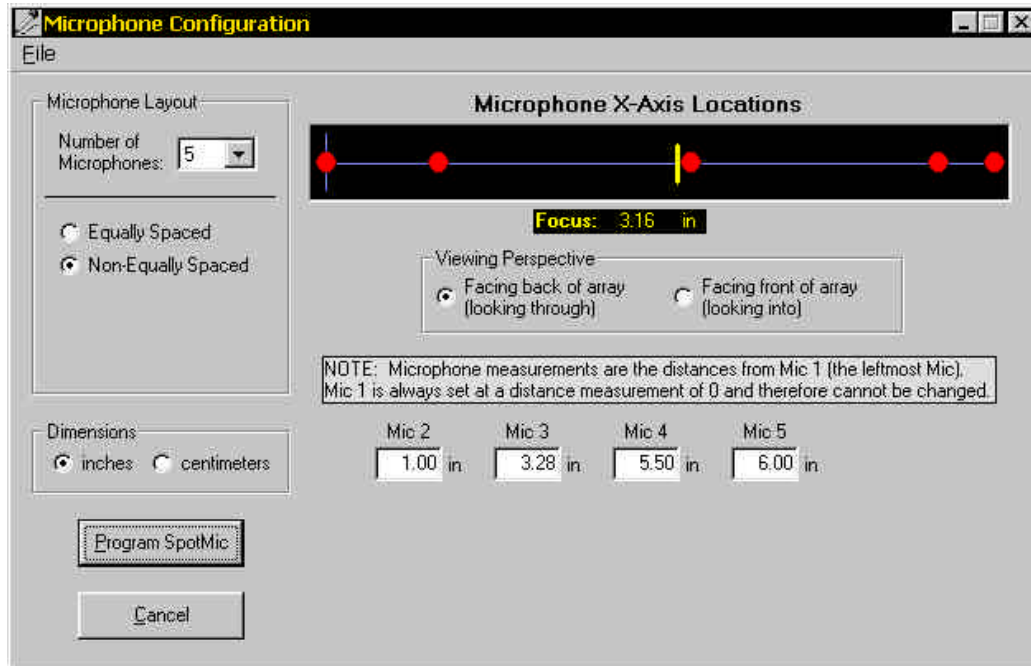

Figure 3-1: Microphone Configuration Window
7. Now we need to configure the microphone array. Click on the **Microphones** menu and then on **Configure Microphones**. The Microphone Configuration Window will appear (Figure 3-1).